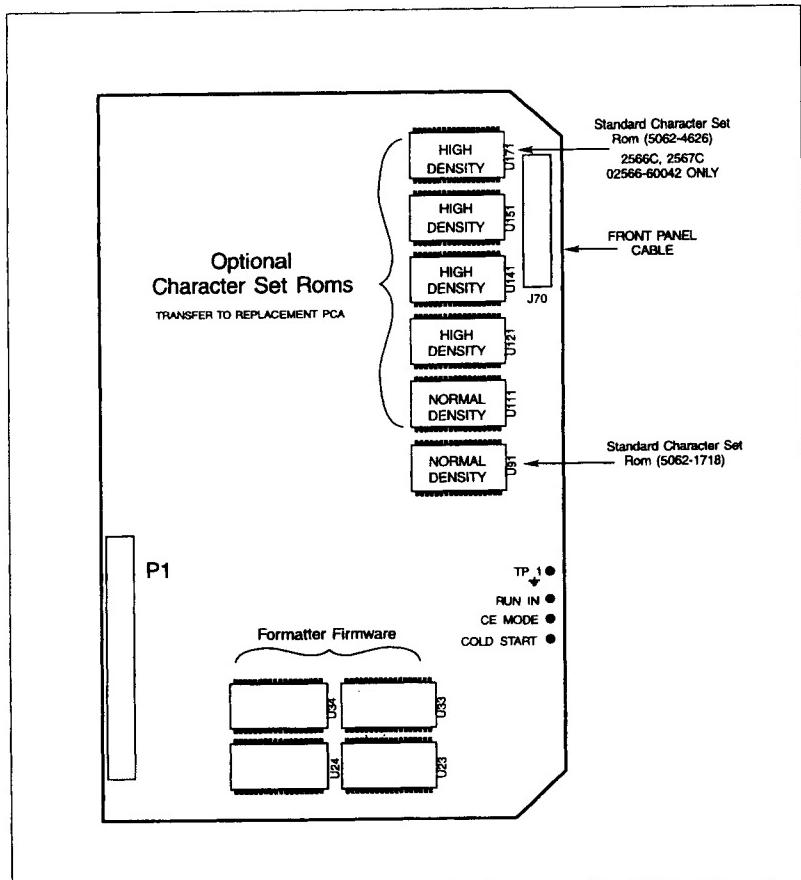

Figure 6-12. Formatter PCA
- a. Switch the printer offline and the ON/OFF switch to the OFF (0) position.
- f. Transfer symbol set ROMS to the new Formatter PCA. Assure that the high density (marked "HD") ROMs are placed in high density sockets and that the normal density (marked "ND") ROMs are placed in the normal density sockets (see Figure 6-12).